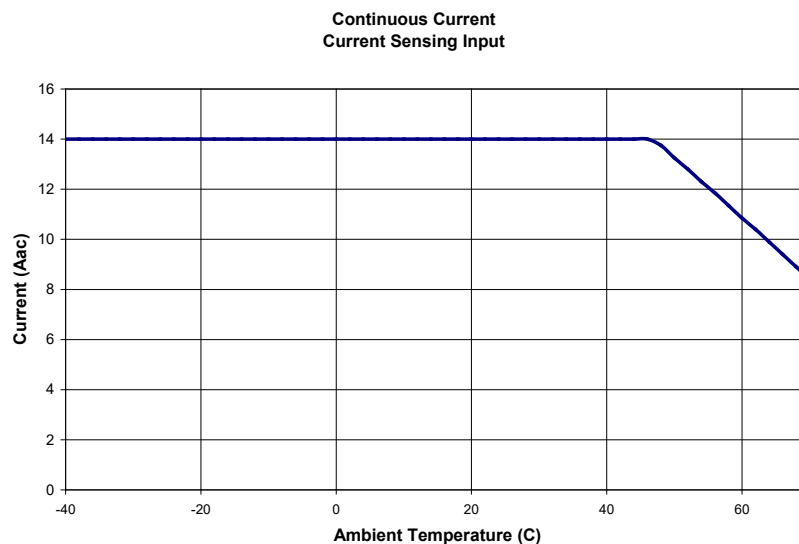

Figure 6-1. Current Sensing Input Derating Curve
* Continuous rating is 14 Aac for temperatures up to 45°C. See Figure 6-1 for the derating curve.